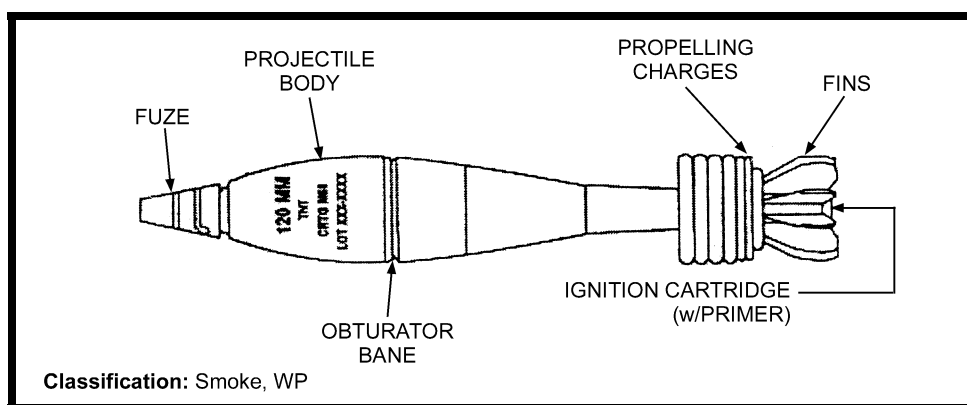

Figure 7-10. M68 smoke cartridge.
- (1) Type and use: High explosive fragmentation and blast.
- (2) Identification: Olive drab with yellow markings.
- (3) Components: M935 point detonating (PD) fuze.
- (4) Maximum range: 6,300 meters at charge 8; 7,200 meters at charge 10.
(5) Remarks: Used against personnel (in open or in bunkers), light vehicles, and light bunkers; weight to 20 pounds (13.18 kilograms).
b. **M68 Smoke Cartridge (NDI)** (Figure 7-10).
- (1) Identification: Light green with red markings.
- (2) Components: M935 PD fuze.
- (3) Maximum range: 6,300 meters at charge 8; 7,200 meters at charge 10.
- (4) Remarks: Used for screening and spotting.